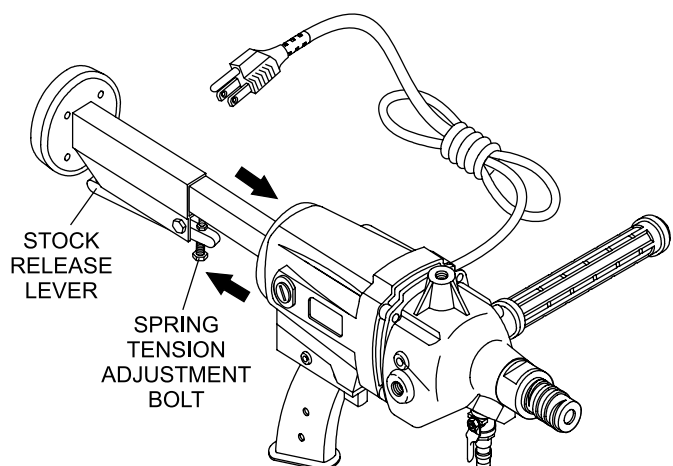

Figure 8. Adjusting the Stock
3. The CDM1H is supplied with an adjustable stock. This stock can be adjusted by simply squeezing the trigger and sliding the stock back and forth to the desired position (Figure 8).